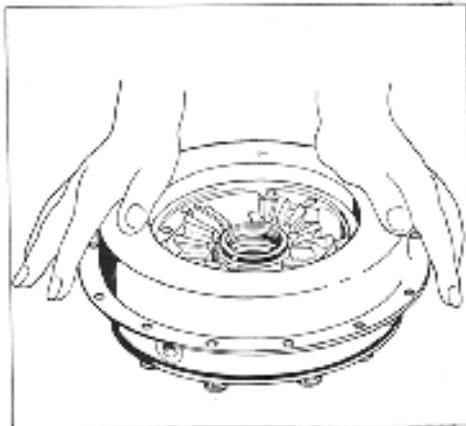

Fig. 25. Installing Clutch Cylinders on Bevel Gear Carrier
- b). With forward side of gear carrier up, press cylinder on by hand. (See fig.25)